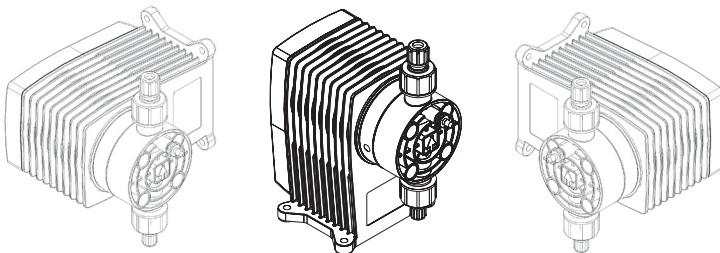

Fig. 7.1: Floor or wall mounting of the dosing pump
When connecting the tubing connections observe the flow direction and the horizontal positioning of the dosing head. The dosing head is marked with an arrow ⑦. The suction line ⑧ must always point to the bottom. Consequently the arrow ⑦ and the pressure line ⑥ always point to the top. This is irrespective from the positioning of the dosing head to the drive (see fig. 7.1).